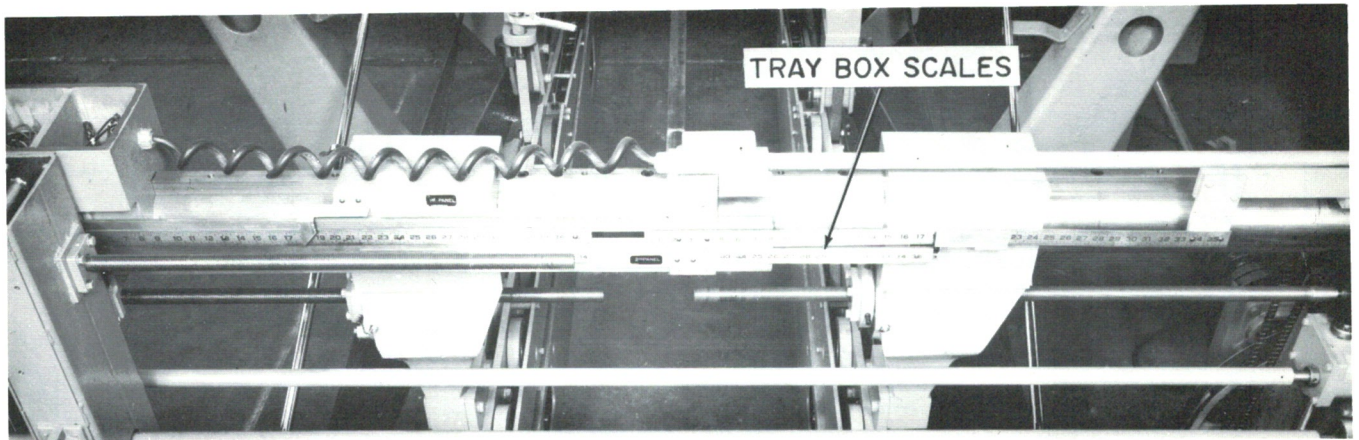

FIGURE 9-2. FOLDING SECTION TRAY BOX SCALES
Step 1) Set 1st and 4th panels to read 40 in. (1016 mm) on each side (Figure 9-2) and creaser-slotter.